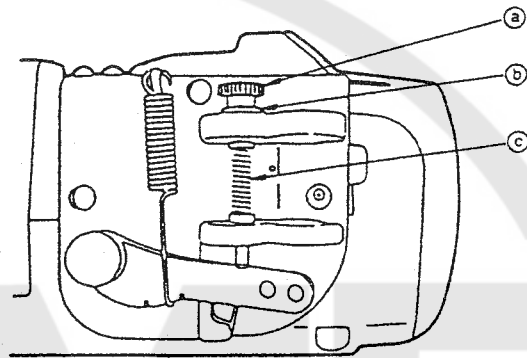

Fig. 56 Pedal sensor A asm.
② Attaching the parts
- a. Loosen rear part depressing pressure adjusting nut ⑥ of the pedal sensor A asm. (Fig. 56), and remove rear part depressing pressure adjusting screw ⑤. Then remove rear part depressing spring A ④ and replace it with rear part depressing spring B. Then attach screw ⑤ and nut ⑥ in position.